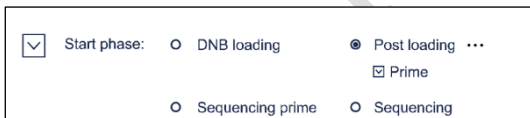

Figure 10-1: Select re-start Post loading
- If starts from the Post loading prime, select “Prime” in Figure 10-1. If starts from the step Post loading, don't select “Prime”.